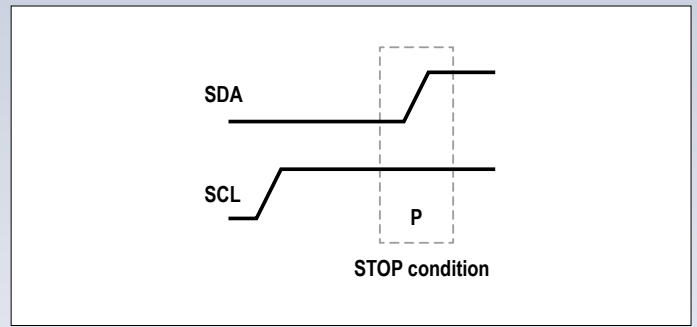

Figure 7. Stop condition.
4. At the end of a transmission the master releases first the SCL clock line and then the SDA data line: the pull-up resistors then pull the two signals to a high level. This sequence (see **Figure 7**) is called a 'stop condition'. To create the